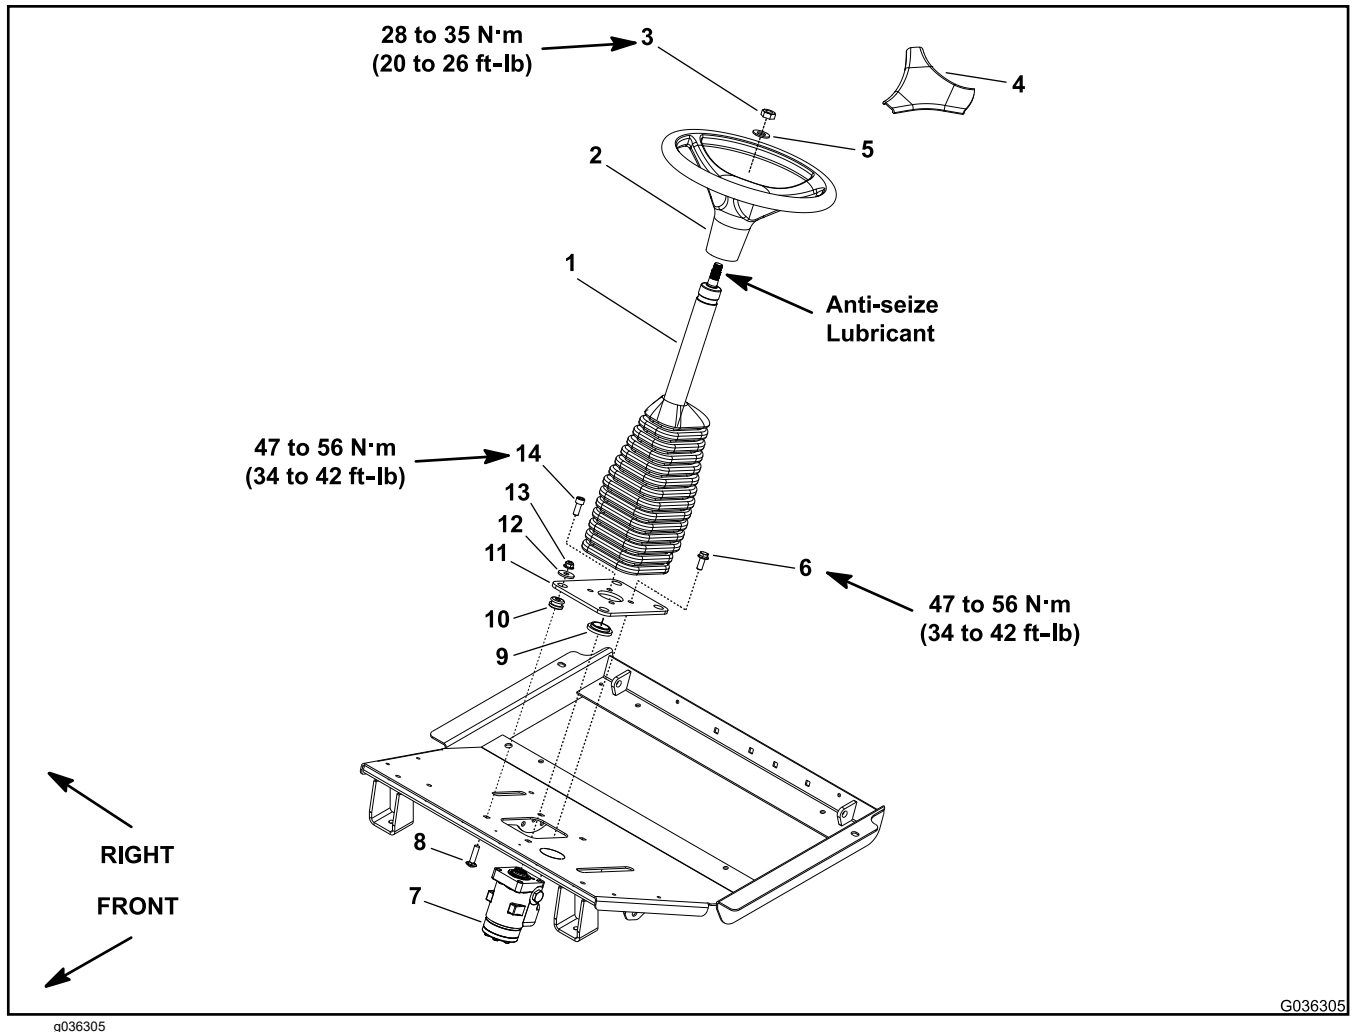

Figure 283
2. Remove the steering wheel cover (item 4 in Figure 283) from the steering wheel by carefully prying up on one of the cover spokes.
3. Remove the locknut (item 3 in Figure 283) and flat washer that secure the steering wheel to the steering column.
4. Use a suitable puller to remove the steering wheel (item 2 in Figure 283) from the steering column assembly.
6. Support the steering control valve (item 7 in Figure 283) to prevent it from shifting during the steering column removal.
7. Loosen and remove the 3 flange-head screws (item 6 in Figure 283) and socket-head screw that secure the steering column to the steering control valve. Note the location of the socket-head screw for the assembly purposes.
1. Apply anti-seize lubricant to the input shaft of the steering control valve (item 7 in Figure 283).
2. Ensure that the alignment bushing (item 9 in Figure 283) is positioned on the steering control valve and into the bore of the steering plate.
3. Slide the steering column assembly (item 1 in Figure 283) onto the steering control valve. Secure the steering column in place with the 3 flange-head screws and socket-head screw. Tighten the screws by hand and then torque the screws to **47 to 56 N·m (34 to 42 ft-lb)** in a crossing pattern.
5. Clean the tapered surfaces of the steering wheel (item 2 in Figure 283) and steering column.
8. Install the steering wheel cover (item 4 in Figure 283) onto the steering wheel.